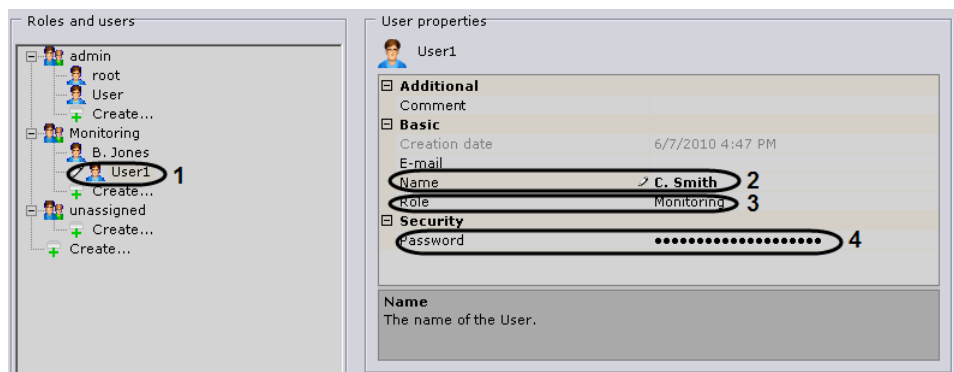

Fig. 6.12—5 Configuring a User
4. Enter the password into the **Security** configuration group (see Fig. 6.12—5, 2).